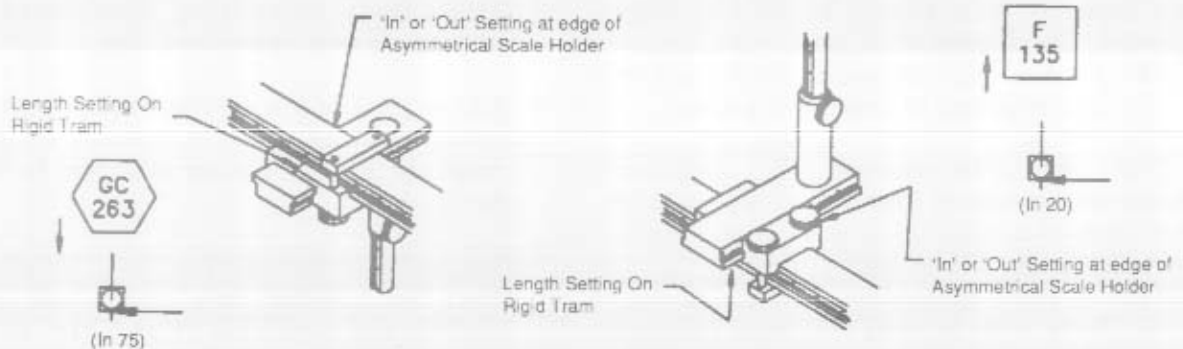

Figure 6
F. Positions measured forward of overhead bar are measured with rigid tram. Arrow to lower left of all symbols relating to rigid tram indicates whether vertical scale is to point up \uparrow or down \downarrow from rigid tram. Within these symbols are fitting requirements for vertical scale and vertical dimensions. Length settings for scale holder on rigid tram $\leftarrow \rightarrow$ are found just below vehicle drawing. (See Figure 6.)
G. A \square symbol found in length setting line for rigid tram $\leftarrow \rightarrow$ indicates use of asymmetrical scale holder is necessary. Below this symbol will be a set of brackets (). Within these brackets is direction (in or out) and setting of asymmetrical scale holder. To use asymmetrical scale holder on rigid tram, remove standard vertical scale holder and install asymmetrical holder in the direction indicated. (See Figure 6.)